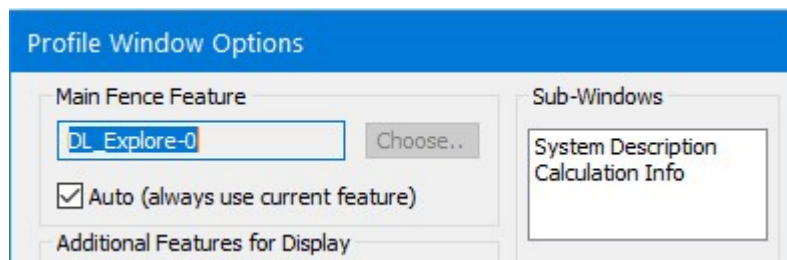

Figure 5-6: *Profile Window Options* with an explicit fence feature.
6. Press the *Options* button to open the shared *Profile Window Options* dialogue (Figure 5-6 below).